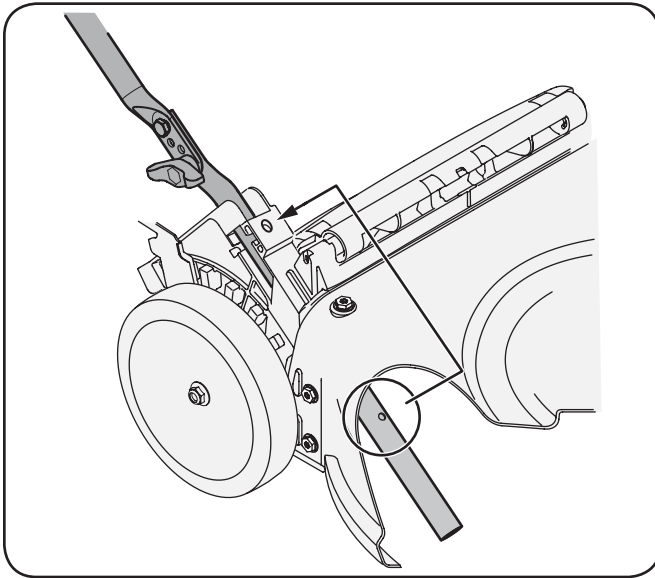

Figure 3-3
2. Follow the steps below and refer to Fig. 3-3 and 3-4 to complete handle assembly:
- a. Pull upward on the handle until holes in lower handle (shown in Fig. 3-3 deck cutaway) line up with holes in handle bracket.